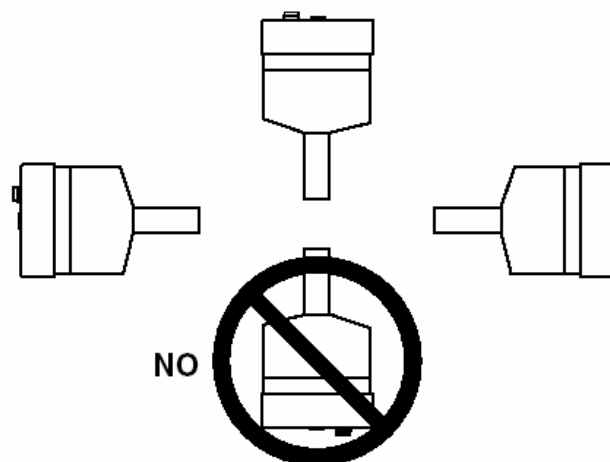

Figure 4. Mounting Orientation
The capacitance manometer (CM) can be mounted in any of the three positions shown in Figure 4. DO NOT mount the capacitance manometer with the inlet tube facing upward because the sensing diaphragm may become damaged by process contamination, which will adversely affect the operation, and thereby void the warranty.